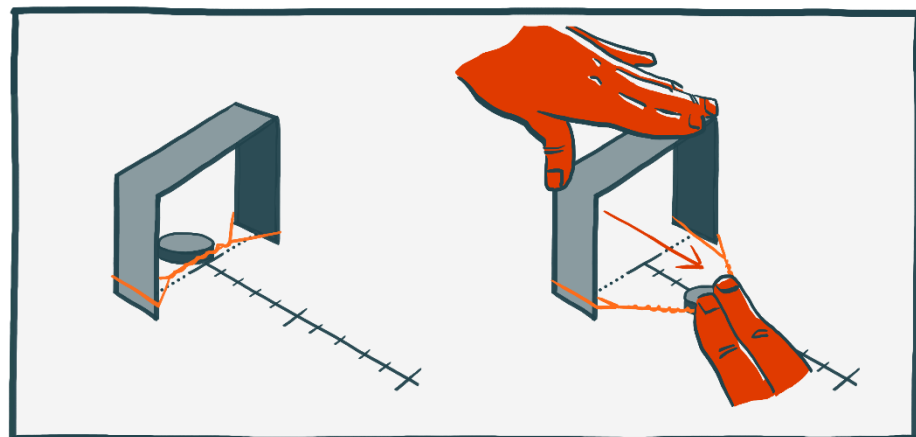

Fig. 3
2. Place a sheet of paper with a scale drawn on it. On the sheet, position the slingshot so that the taut rubber band is above the "0" line (see figure 3).
4. Press the frame down. Press the cap to the floor with one finger. Tighten the rubber band to 0.5 cm (0.5 in.), then release the rubber band (see figure 3).